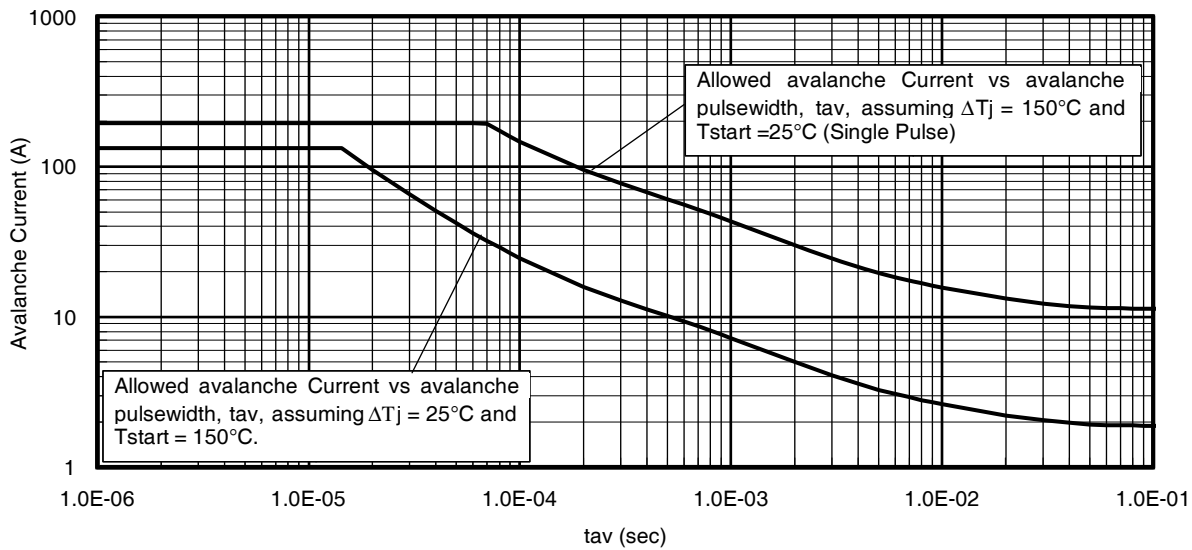

Fig 14. Typical Avalanche Current vs.Pulsewidth
Notes on Repetitive Avalanche Curves , Figures 14, 15:
7. ΔT = Allowable rise in junction temperature, not to exceed T_{jmax} (assumed as $25^{\circ}C$ in Figure 14, 15).